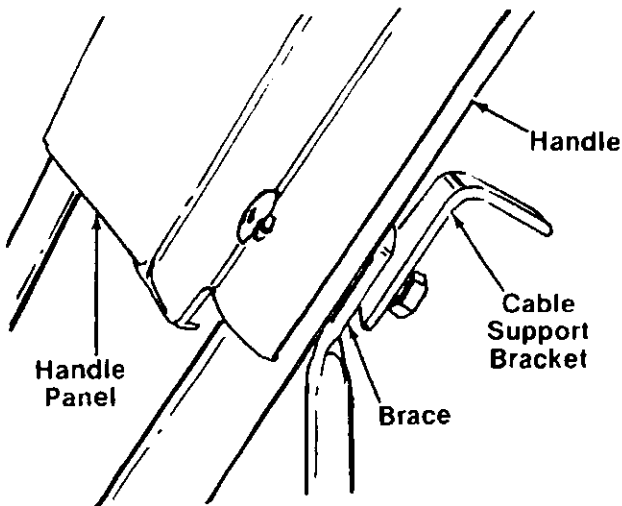

FIGURE 11.
12. Place carriage bolt (A) through the handle panel, handle, handle brace and cable support bracket on the lower left hand side of handle panel as shown in figure 11. Use the bottom hole in the cable support bracket. Secure with lock washer and hex nut, finger tight only.